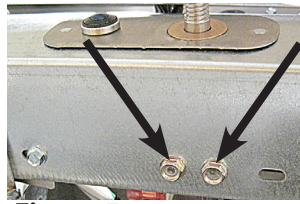

Figure 5
10. Using a 5/16" nut driver, remove the two screws on the bottom of the control frame attaching the handle assembly (see Figure 5).